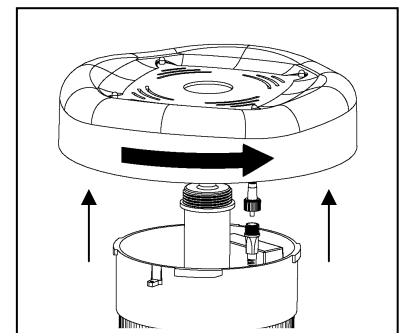

Fig. 7
4. Twist the top section counterclockwise. Then pull the top section from the lower. Unscrew the wire connector that connects the top section to the rest of the unit. Fig. 7